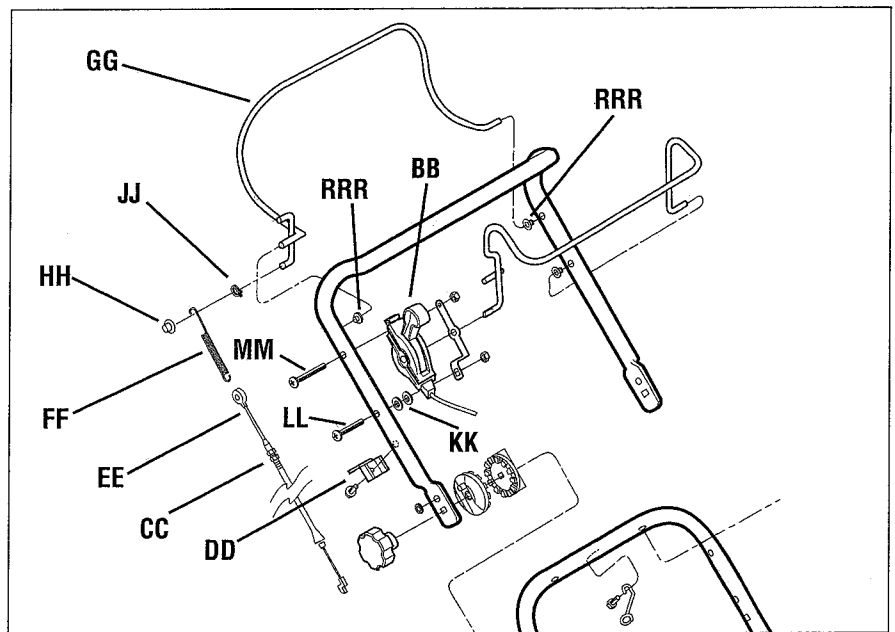

Fig. 9
1. Loosen the two jam nuts (CC, Fig. 9) that hold the cable to the right handlebar bracket (DD, Fig. 9). Discard the cable (EE, Fig. 9), spring (FF, Fig. 9), and the bail (GG, Fig. 9).
2. a. Loosen the upper bolt (MM, Fig. 9) and nut that hold the blade clutch lever (BB, Fig. 9) to the right handlebar. Remove the lower nut and bolt. Discard the bolt. Install a new (longer) bolt, Part No. 1100811 (1/4"-20 x 1-1/2"), through the lower hole in the handlebar. Install two (2) 1/4" flat washers (KK, Fig. 9) on the bolt, followed by the blade clutch lever. Install the original nut. Do not tighten the nut yet.
b. Remove the upper bolt (MM) and nut that secure the blade clutch lever. Remove any washers that are on this bolt between the clutch lever and the handlebar. Some units have a washer at this location and it must be removed. Reinstall the upper bolt and nut and tighten them securely.
c. Tighten the lower bolt and nut (LL, Fig. 9) securely. While tightening, you will notice that the two (2) flat washers will bend somewhat to conform to the handlebar's curved surface. Apply enough torque with your wrenches to the nut and bolt to cause the washers to bend.
2. Refer to Fig. 9. Install a grip ring (JJ) and a pushnut (HH) on the new bail (GG). Install the new bail (GG) on the handlebar. Make sure the bushings (RRR) are in the holes in the handlebar. Route the new clutch cable (EE) along the right side handlebar without passing through the tower.
3. Refer to Fig. 9. Install the two (2) clutch cable jam nuts (CC) into the cable bracket (DD). Attach the spring (FF) to the eyelet at the end of the cable, and then around the end of the bail between the pushnut (HH) and the grip ring (JJ) from the top down. Make sure the open end of the springhook on the bail side is facing toward the ground. Then, using needle-nose pliers, crimp the hook until it closes enough to secure the spring. Crimp the end of the spring which is in the eyelet of the cable enough to keep it inside the eyelet. Check the function of the bail and make sure the spring can rotate freely when the bail is engaged.
6. Wire tie the two cables (clutch cable EE, Fig. 9, and BBC cable) to the upper hole in the right side handlebar lower section. Place a second wire tie in the lower hole (right side) and tie only the clutch cable. Place a wire tie around the speed
10. Standing at the handlebar, position the two clutch cable jam nuts (CC, Fig. 9) in place over the mounting bracket (DD, Fig. 9). With the bail (GG, Fig.9) in the disengaged position, adjust the two nuts until there is a slight amount of slack in the cable. If the cable is adjusted correctly, the cable will become taught after the bail is moved forward approximately one-quarter of an inch (1/4"). Recheck the .015" gap between the friction disc and the sheave. If the gap is incorrect, readjust the gap by following the instructions on page 32 in the new Owner/Operator Manual.